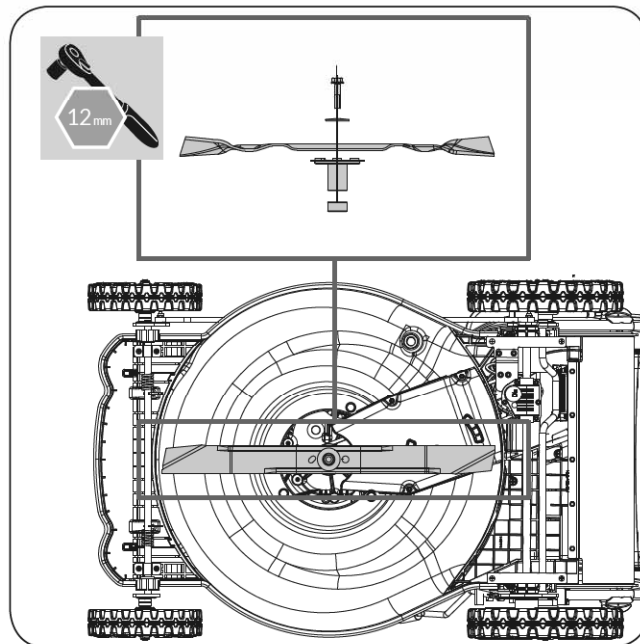

Figure 39
4. Remove the blade, saving all mounting hardware. Examine the blade support and blade bolt to see if there is damage. Examine the motor shaft to make sure that it is not bent. (See **Figure 39**)